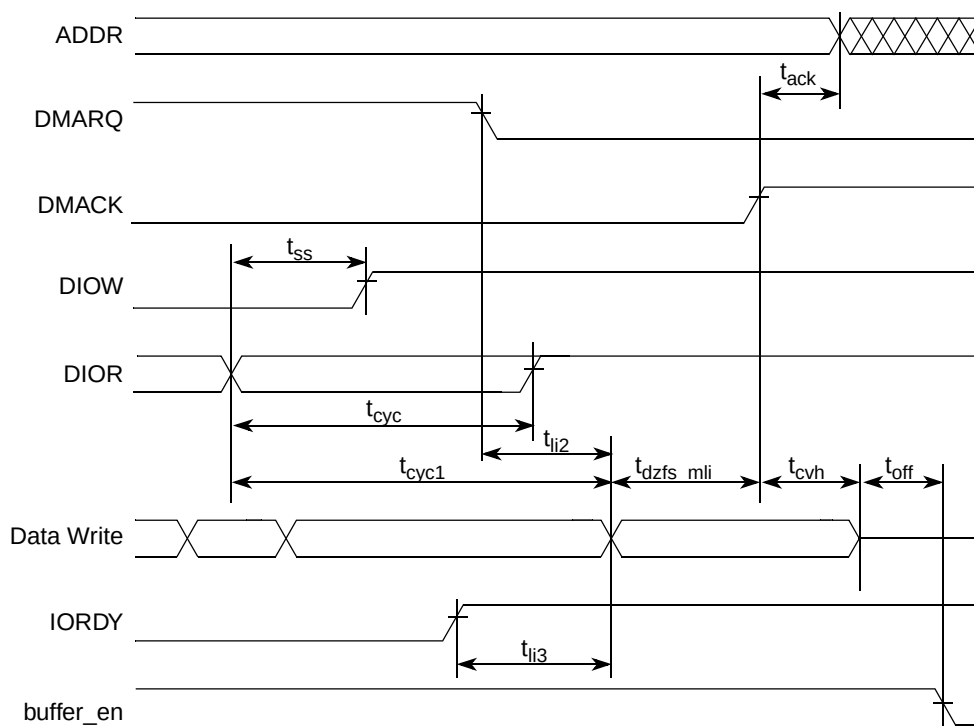

Figure 33. UDMA Out Host Terminates Transfer
- Figure 33 gives timing for host terminating UDMA out transfer